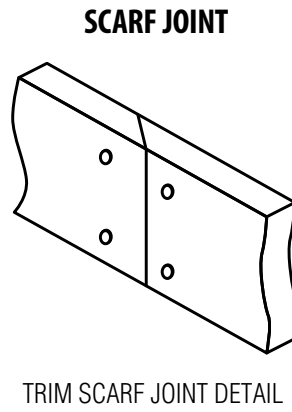

Figure 2
- When a scarf joint is used, two nails are required into solid wood framing on each side of the joint (see Fig. 2).